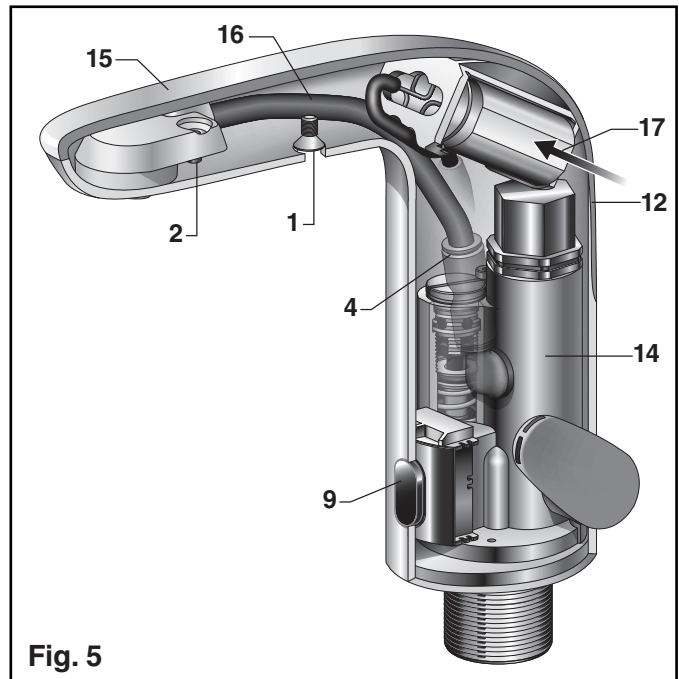

Fig. 5
E INSTALL OPTIONAL MIXING VALVE; Fig. 5
Note: An optional Thermostatic Mixing Valve (sold separately) may be installed on faucets 775X.1XX & 775X.2XX in addition to Above Deck Mixing valve. See setup diagram Fig. 5.
B REPLACE BATTERY; Fig. 5, 7
3. Push BATTERY (17) forward and Pull it out. (Fig. 5)
C REPLACE SENSOR; Fig. 5, 6, 7
D CHANGE SENSOR RANGE; Fig. 5, 6, 7